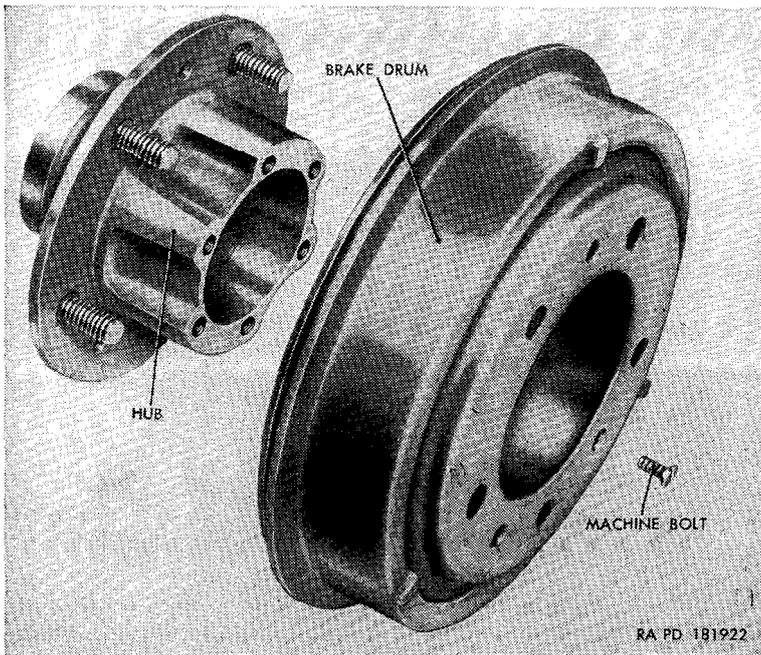

Figure 139. Brake drum—removed from hub.
- (1) Remove the wheel (par. 250a).
- (2) Unscrew and remove the three bolts (fig. 139) securing the brake drum to the hub, and pull the drum from the hub.